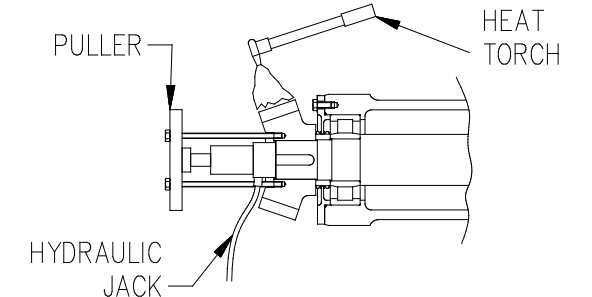

Fig. 6.9.10
7. Heat the circumference of the pinion and withdraw the pinion by means of hydraulic jack and puller. (Fig. 6.9.10).